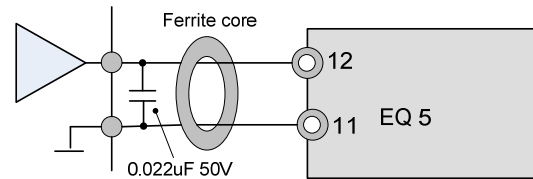

Fig. 2-3-9 Noise Suppression Example
An inverter of 40HP/CT, 50HP/VT or greater uses an AC cooling fan. When the inverter is being operated with DC Input power, the fan must still be energized from an AC power source. To do this, position the fan connector (CN RXTX) as shown in Fig. 2-3-9 and provide AC voltage to auxiliary input terminals R0 and T0. For the (CN RXTX) connector placement method, see Fig. 2-3-7.
- If an external analog signal output device is connected to these terminals, it may malfunction as a result of inverter noise. To prevent malfunction, connect a ferrite core or capacitor to the external analog signal output device as shown in Fig. 2-3-9.